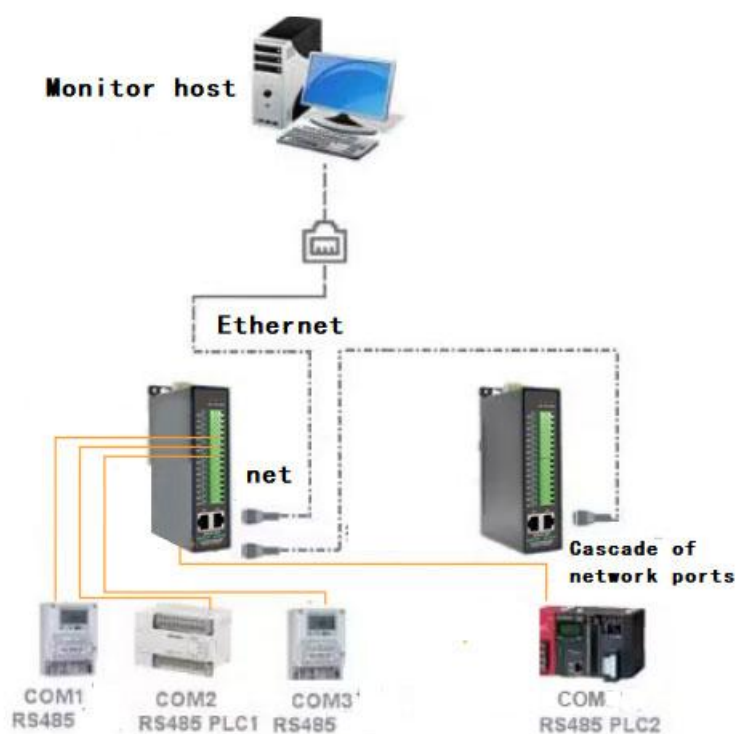

Figure 2 Connection Diagram
Typical application connections are shown in Figure 2. The original serial device RS485 is connected to the RS485 port of 2/4/8 CH-RS485-ETH (V)/(VI), and 2/4/8 CH-RS485-ETH (V)/(VI) is connected to the computer through a network cable. The software on the computer establishes a connection with the 2/4/8 CH-RS485-ETH (V)/(VI) through TCP/IP, virtual serial port, or cloud server. After that, any data sent by the serial port device will be transparently transmitted to the computer software, and the data sent by the software to 2/4/8 CH-RS485-ETH (V)/(VI) through the network will also be